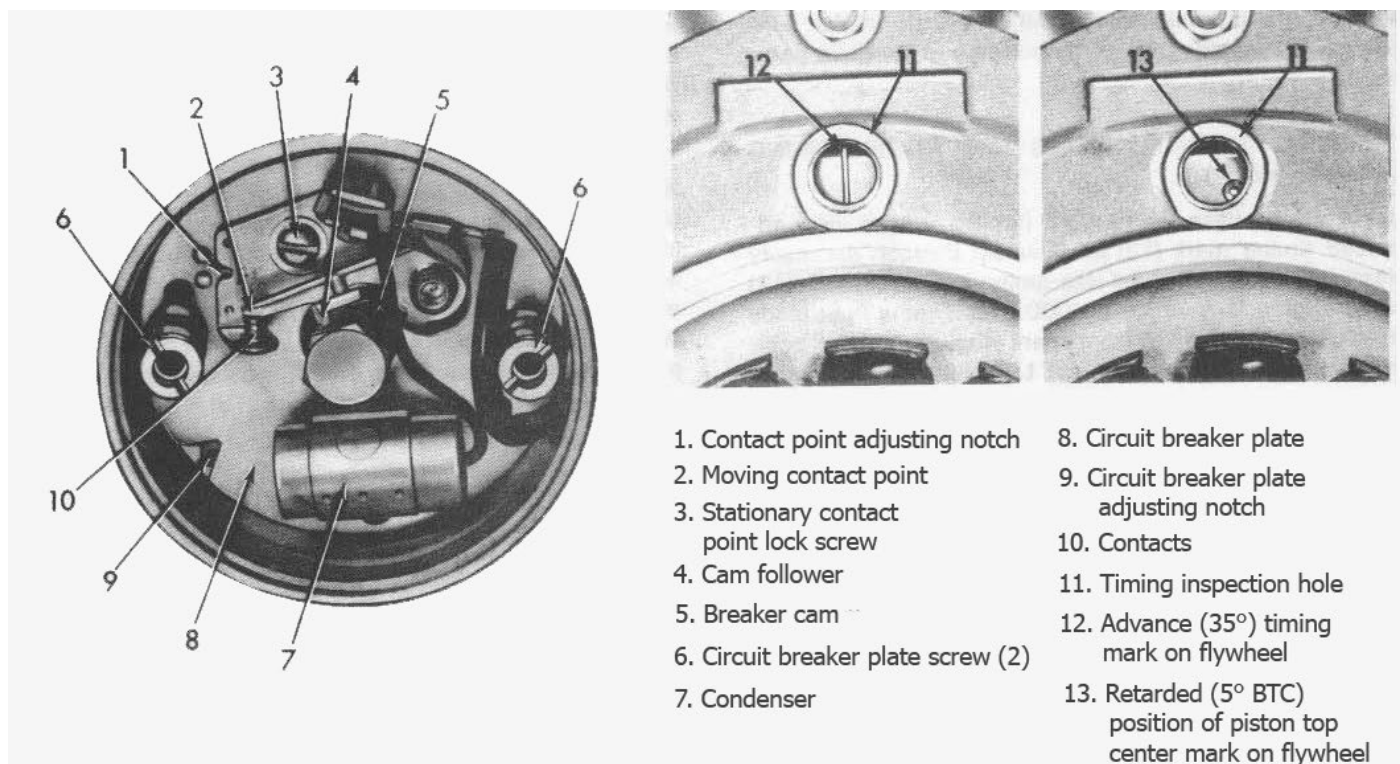

Figure 1: Circuit Breaker & Timing Gears
ADJUSTING POINTS (Figure 1)
CHECKING ADVANCED TIMING WITH STROBE TIMING LIGHT (Figure 1)
CHECKING RETARDED TIMING WITH CIRCUIT TESTER (Figure 1)
The narrow lobe cam is now at the approximate point at which contacts (10) open and front cylinder ignition spark occurs. When the wide cam lobe opens the points, rear cylinder ignition spark occurs. Connect a circuit tester such as a light bulb across the contact points to determine the exact point of contact opening. Loosen circuit breaker plate screws (6) just enough to shift circuit breaker plate (8) using a screwdriver in notch (9), so contacts will open exactly when piston top center timing mark (13) is aligned in inspection hole (11) as shown in Figure 1.